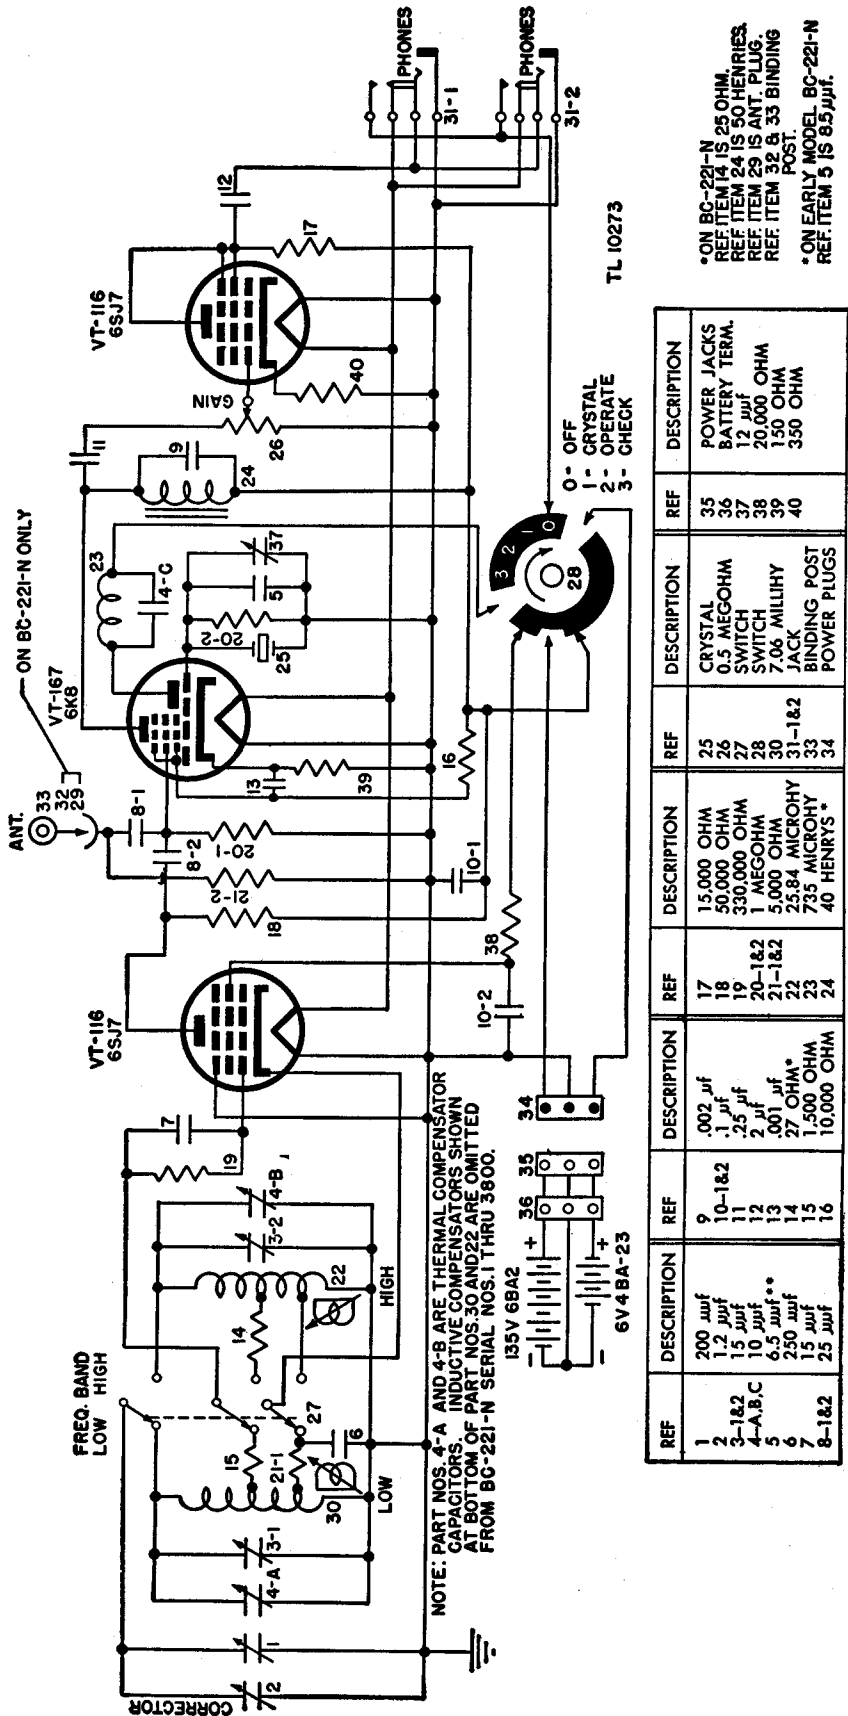

Figure 71. Frequency Meters BC-221-N and BC-221-AA, schematic diagram.
quency Meter BC-221-N, serial Nos. 1 through 3800, may not function satisfactorily in meters having serial Nos. 3801 and higher. Part Nos. 5 and 37 differ slightly in electrical characteristics. The schematic diagram (fig. 71) indicates that it is not necessary to show separate functional diagrams on the two types of meters since the main difference consists of the temperature compensating devices.
e. **OSCILLATOR FUNCTION.** (1) The variable frequency oscillator circuit is in operation at the **CHECK** and **OPERATE** positions of operation switch 28. (See fig. 71.)
(2) At the **CHECK** position, the output of oscillator Tube VT-116 (6SJ7) is applied to one of the grids of detector-converter Tube VT-167 (6K8), where it is mixed with the output frequency of the crystal circuit. The result is a frequency equal to the difference of the two and is used to adjust the frequency of the oscillator by means of the **CORRECTOR** control.
(3) At the **OPERATE** position, the variable frequency oscillator is in operation, while the crystal oscillator is not. If the antenna is in position, the frequency meter may be used to receive or send any frequency in its range; that is, it may be used as a radio receiver or transmitter.
206. Power Supply Circuit (fig. 71)